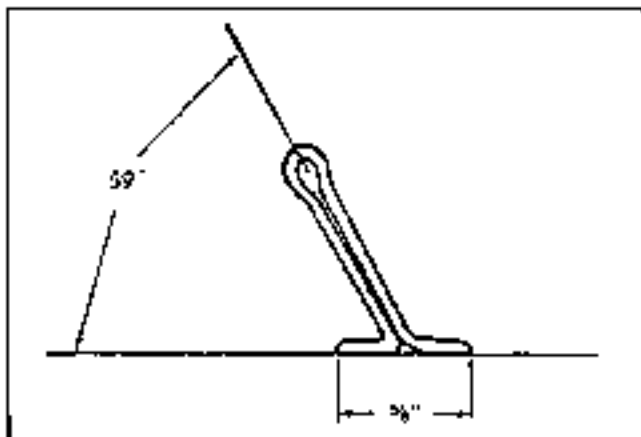

Fig. 6-108 Tool For Removing Upper Half of Main Bearing
4. Make a tool for removing upper half of bearing shell as shown in Fig. 6-108.